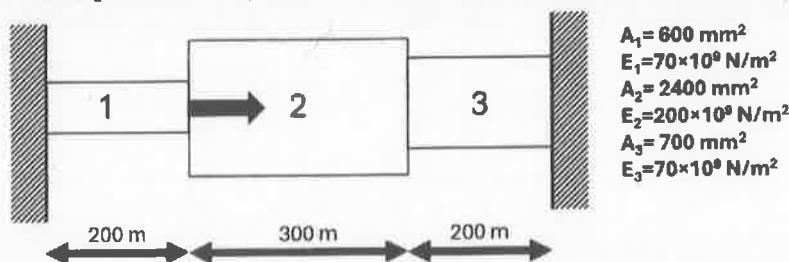

Fig. 16(b)
- (b) An axial load $P = 200 \times 10^3 \text{ N}$ is applied on a bar shown in Fig. 16(b) Using the penalty approach for handling boundary conditions, determine nodal displacements, stress in each material and reaction forces.